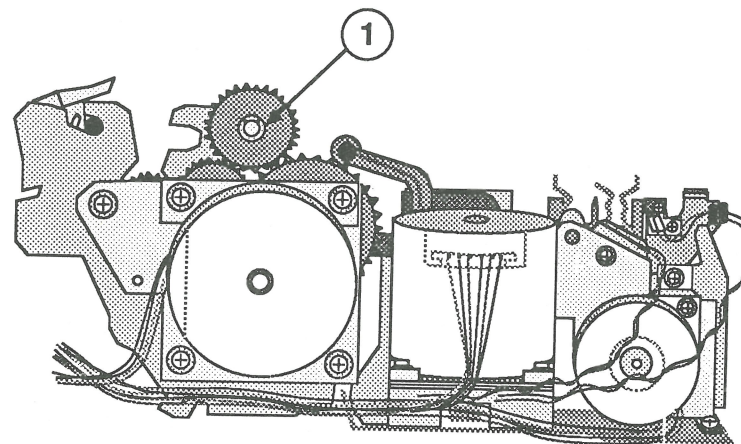

FIGURE 20
8. Remove the E-ring securing the cut sheet feeder idler gear (Figure 20, #1), and remove the idler gear.